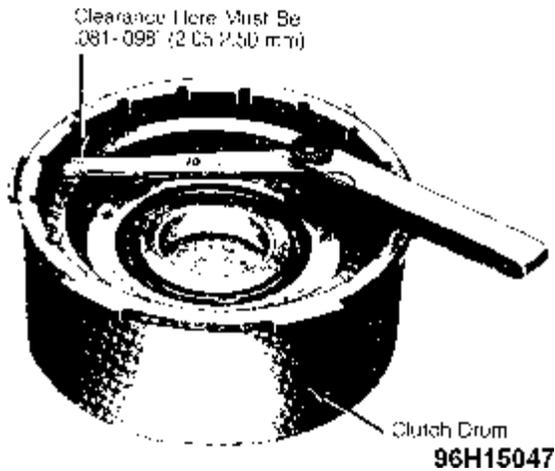

Fig. 10: Measuring Direct-Reverse Clutch Clearance
5) Measure clearance between pressure plate and retaining snap ring. See Fig. 10. Clearance should be .081-.098" (2.05-2.50 mm). If not, remove clutch pack snap ring and replace with snap ring of correct thickness to bring clearance within specification.